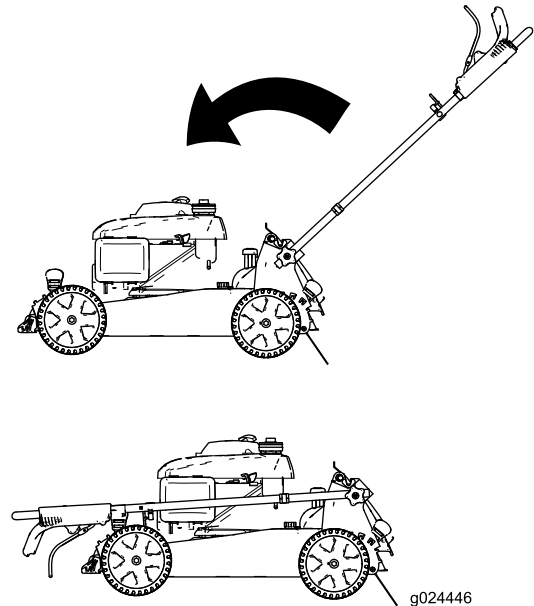

Figure 28
2. Fold the handle to the fully forward position as shown in Figure 28.